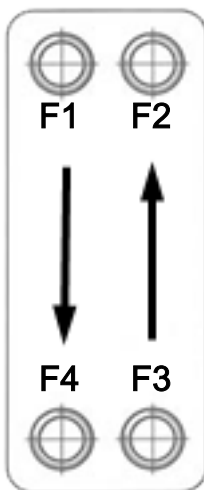

Fig. 4: Parallel flow GPL/NPL
- Flow through the plate: parallel, in opposite direction (see ►Fig. 4, p. 16)